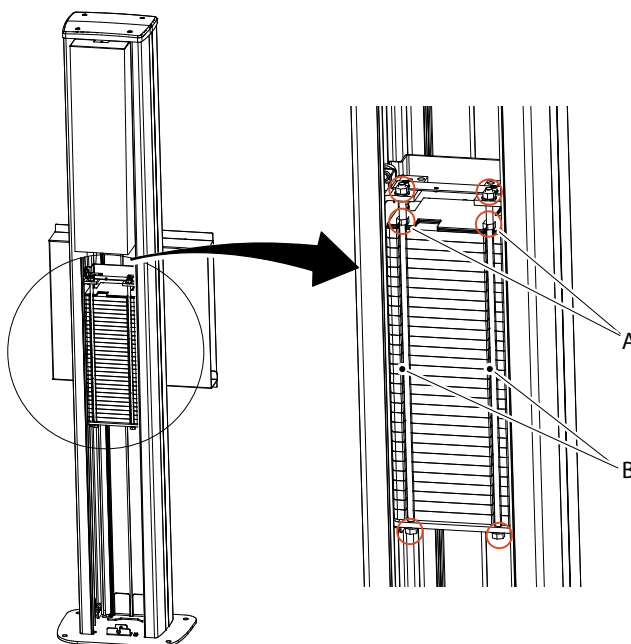

Fig. 4-67 Loosen screws
7. The counterweights must be fixed with two long screws (B) and six nuts. Three on each side to make sure that they are pulled together, see Fig. 4-67 Loosen screws.